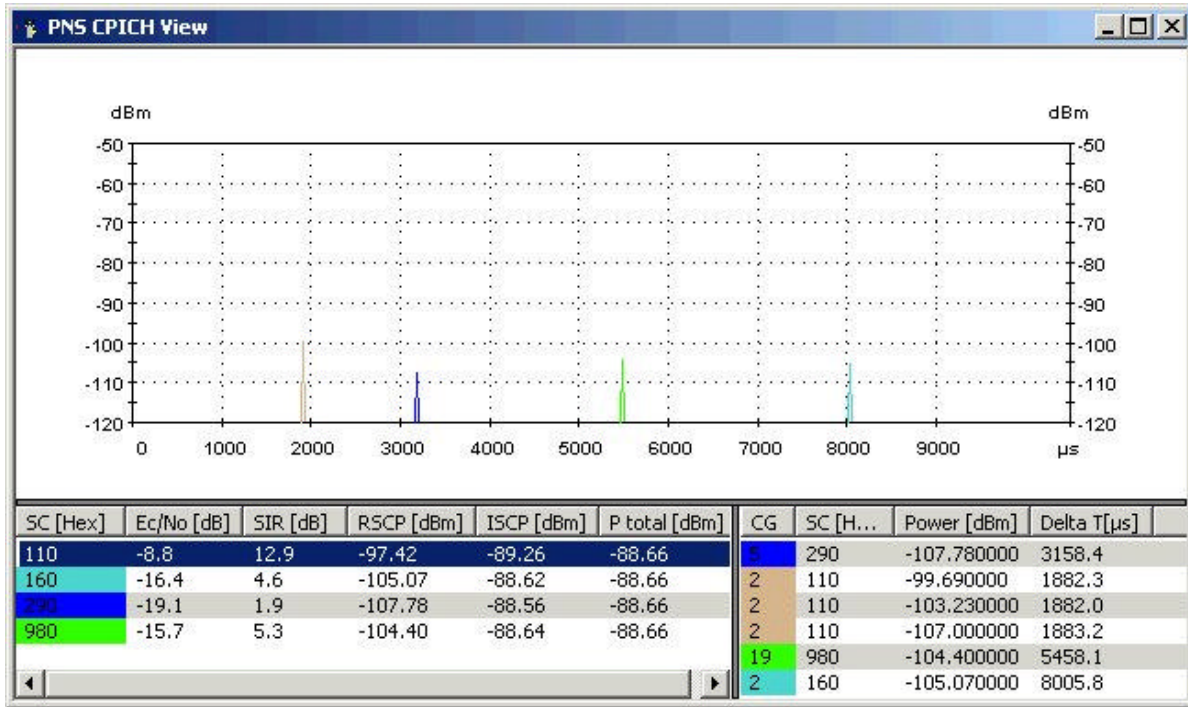

Figure 3: CPICH View
The identified peaks are used for further investigation of the received Node-B's. Using the S-SYNCH channel the Code Groups of the received Node-B's can be found. Once the Code Group is known, the P-CPICH gives the information about the transmitted Scrambling Code. The result of the correlation with the CPICH is displayed in the *CPICH View* (Figure 3). For each found Scrambling Code the view has an entry on its left table. Each Scrambling Code refers to a Node-B. Beside the total power of the signal, for each Node-B, E_c/I_0 , SIR, RSCP, ISCP are calculated. For each entry in the left table the right table shows the peaks coming with the corresponding Scrambling Code (SC). The peaks' power and relative arrival time give the important information about reflections and/or interference.